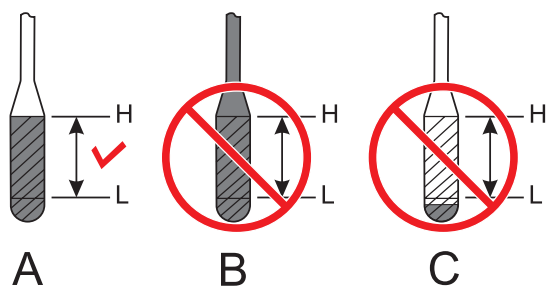

Figure 27. Engine Oil Dipstick
3. Reinsert the dipstick, then remove the dipstick from its holder. Check the oil level shown on the dipstick (Figure 27).